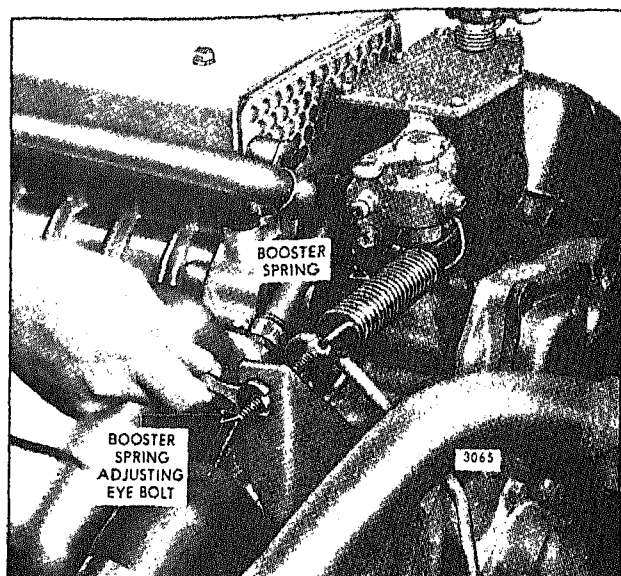

Fig. 9 - Adjusting Booster Spring
- Refer to Fig. 9 and disconnect the booster spring and the stop lever retracting spring.